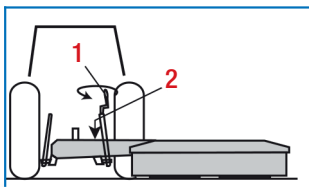

Figure 11
- The machine must be in horizontal position when it is connected to the tractor (2) (Figure 11).
- By turning the tractor upper arm regulate the cutting height (1) (Figure 11).